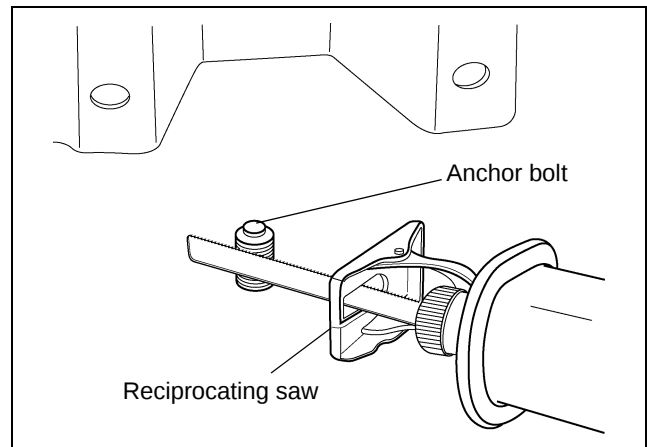

Figure 4F Cut anchor bolt so it sticks up less than 1-1/4" from foundation.
1. Shortening the anchor bolt may be required. It can protrude no more than 1-1/4" above the foundation. *(See Figure 4F.)* **NOTE:** You may find it easier to put the nut on the bolt and cut the bolt flush with the nut. This way the threads are not stripped on the bolt, and there is not a problem getting the nut on.